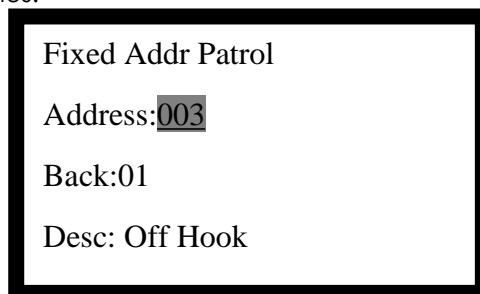

Fig. 4-13
- Select "1. Fixed Patrol" to enter the screen of Fig.4-13. Entering an address code, press 【Menu/Enter】 to view the state of this address.